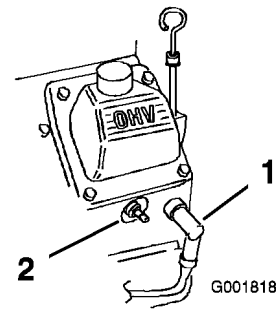

Figure 42
3. Pull the wire(s) off the spark plug(s) (Figure 42).
3. Push the wire(s) onto the spark plug(s) (Figure 42).